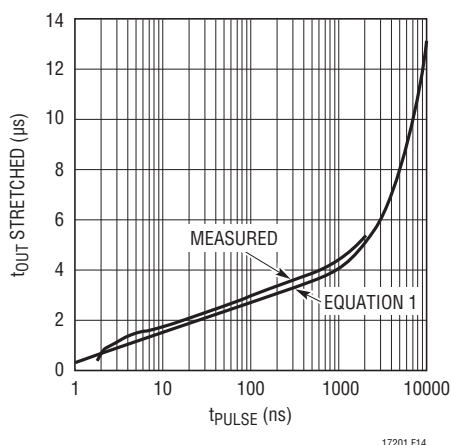

Figure 14. Log Pulse Stretcher Output Pulse vs Input Pulse
The circuit topology itself is extremely fast, limited theoretically only by the speed of the diode, the capture time constant  $\tau_1$  and the pulse source impedance. Figure 14 shows results achieved with the implementation shown, compared to a plot of Equation (1). The low end is limited by the delivery time of the upstream comparators. As the input pulse width is increased, the log function is constrained by the asymptotic RC response but, rather than becoming clamped, becomes time linear. Thus, for very long input pulses the third term of Equation (1) dominates and the circuit becomes a 3 $\mu s$  pulse stretcher.
in the two output pulse widths is the per-octave response of your circuit (see Equation (3)). Shorter cable length differences can be used to get a plot of circuit performance down to  $1.5\text{ns}$  (if any), which can then later be used as a lookup reference when you have moved from quantifying the circuit to using the circuit. (Note there is a slight aberration in performance below  $10\text{ns}$ . See Figure 14.) As a final check, feed the circuit with identical cable lengths and check that it is not producing any output pulses.
This circuit has an ultimate sensitivity of better than 14mV with 5ns to 10ns input pulses. It can even detect an avalanche generated test pulse of just 1ns duration with sensitivity better than 100mV.6 It can detect short events better than the coincidence detector of Figure 14 because the one-shot is configured to catch just 100mV of upward movement from C1's  $V_{OL}$ , whereas the coincidence detector's 3ns specification is based on a full, legitimate logic high, without the help of a regenerative one-shot.